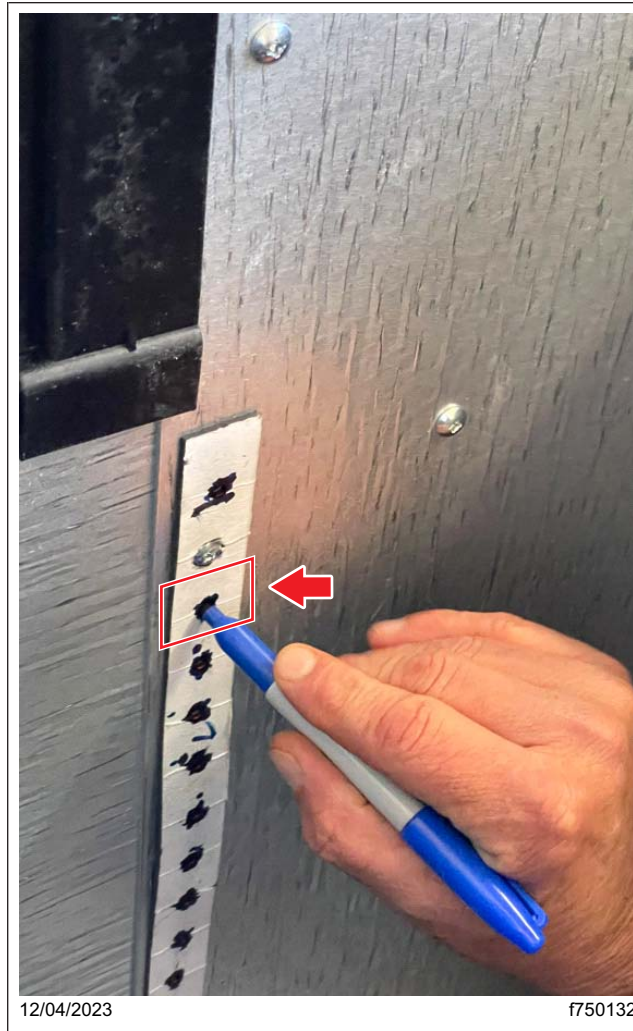

Fig. 4, Location of the Second Fastener
5.2 For the second fastener location, measure 1-3/16 inch downward from the original fastener. See Fig. 4.